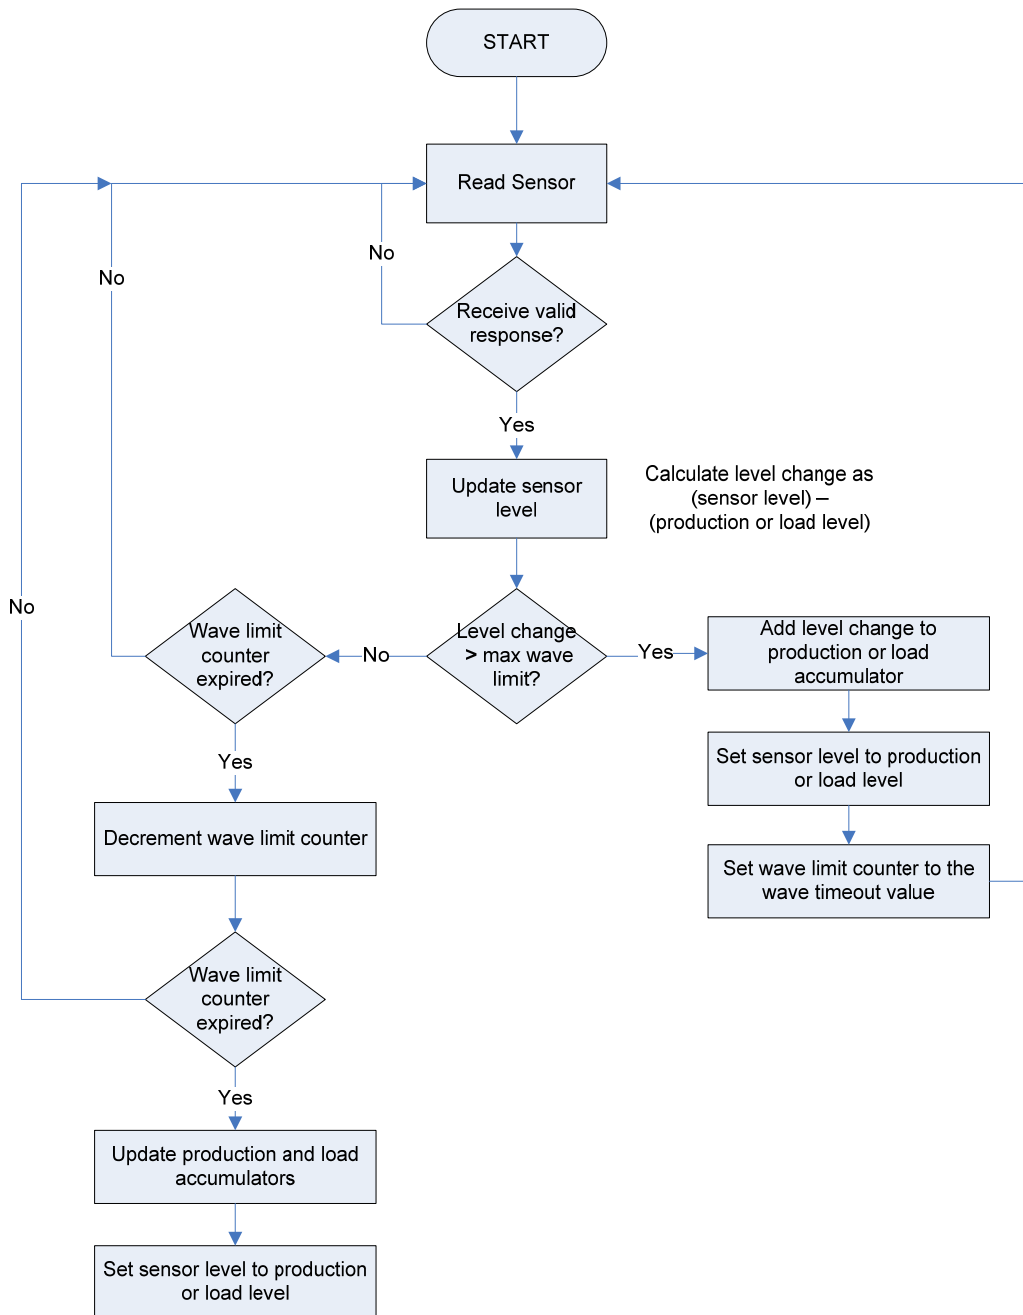

Figure 1. Wave Smoothing
*Figure 1* presents a flow chart illustrating this process: